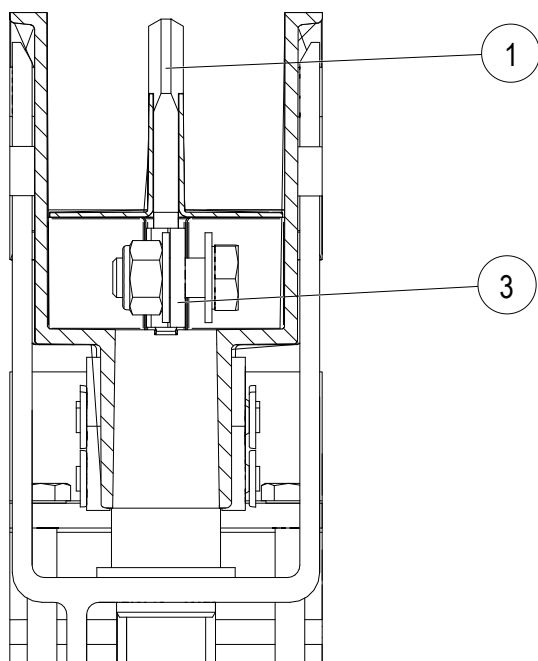

Fig. 124: Sliding contact (item 1) is positioned in the contact sheet (item 3)
- The sliding contact (item 1) must be inserted between the contact sheet (item 3) and must not be positioned next to the contact sheet (see Fig. 124).